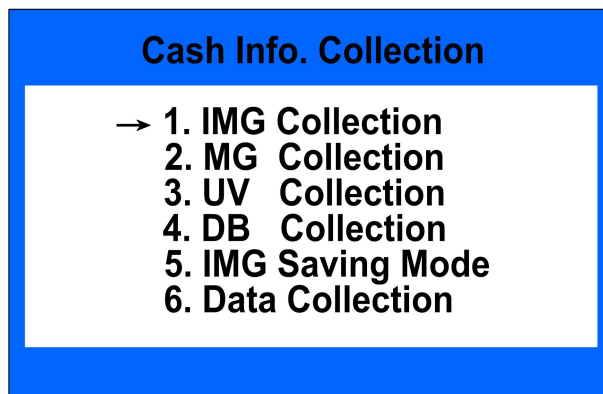

Fig.28
Move the cursor to the user setting interface under Fig.19, choose item 4. Cash info. collection and then press ENTER key to enter the below interface, shown as Fig.28:
Under Fig.28 interface to choose item 1. IMG Collection and then press ENTER key to come into the following setting interface, shown as Fig.29:
Under Fig.28 interface to choose item 2 to 4, and then press ENTER key to enter, you could collect the banknote's UV/MG/DB information.
Under Fig.28 interface to choose item 5. IMG saving mode and then press ENTER key to come into the following interface, shown as Fig.32-B:
Under Fig.28 interface to choose item 6. Data collection and press ENTER key to come into the following interface: